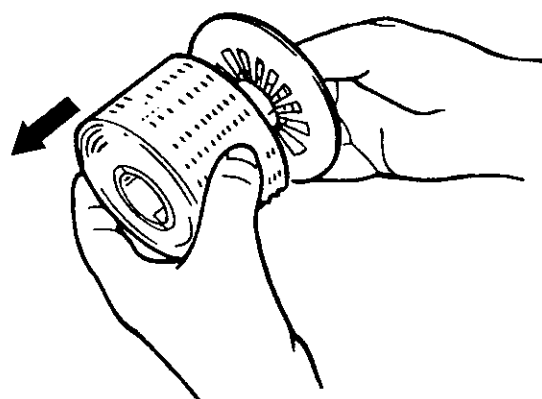

Fig.10
6. Remove the paper record from the take-up reel (See Fig.10.).